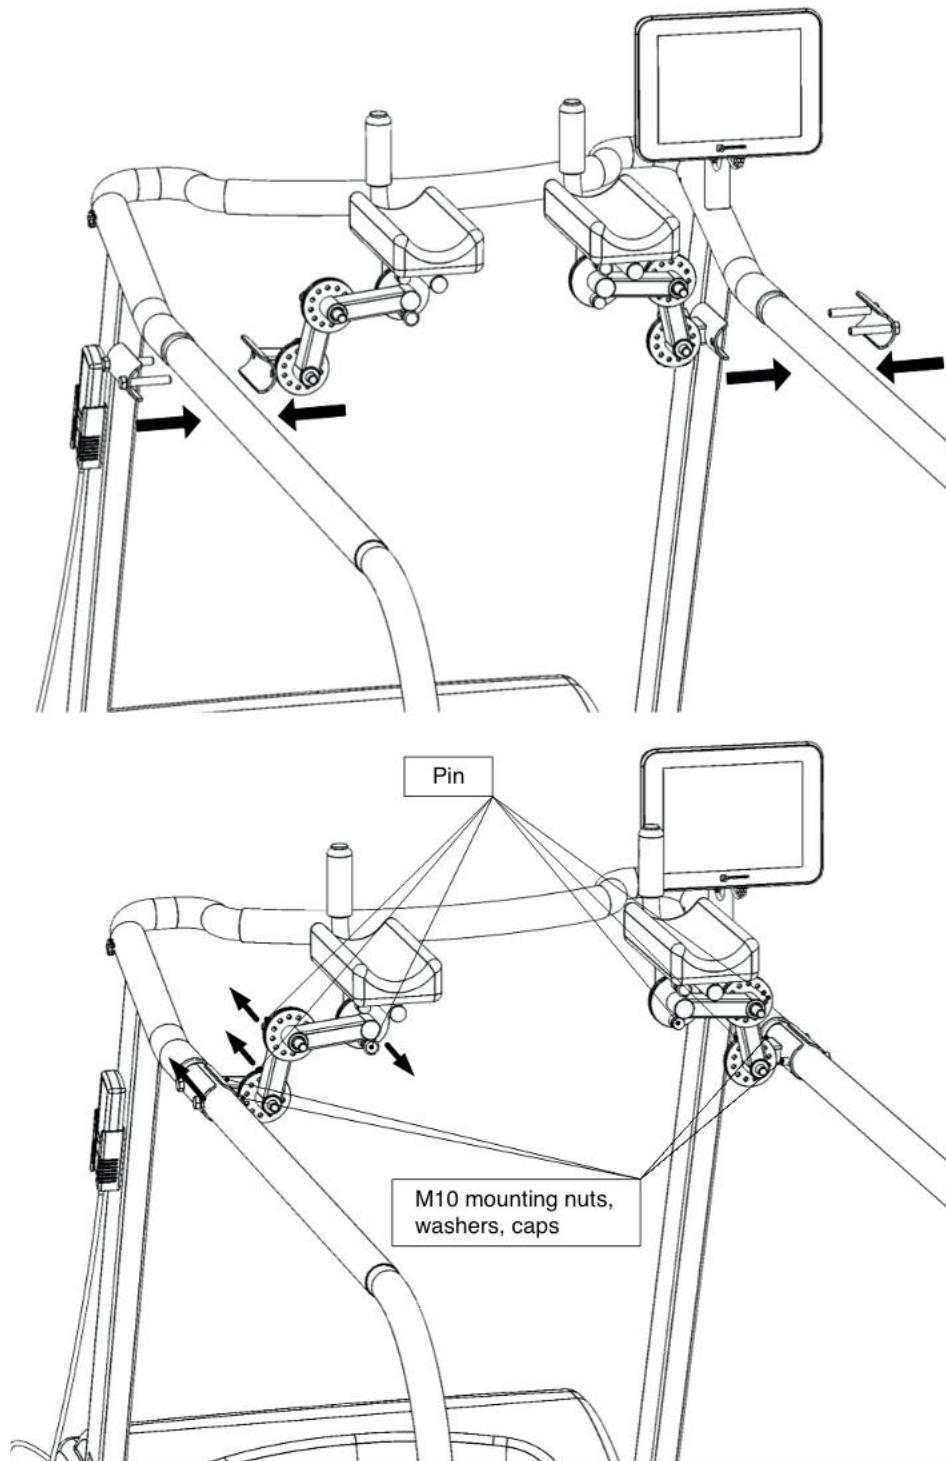

Figure 15 - Installation of additional adjustable hand rests
- Align the holes in the hand rests with the mounting bracket bolts on the inside of the handrail (see Figure 15).
- Release the hand rest from locking by pulling the pins of the required rotary mechanism in the direction indicated by the arrow (see Figure 15).